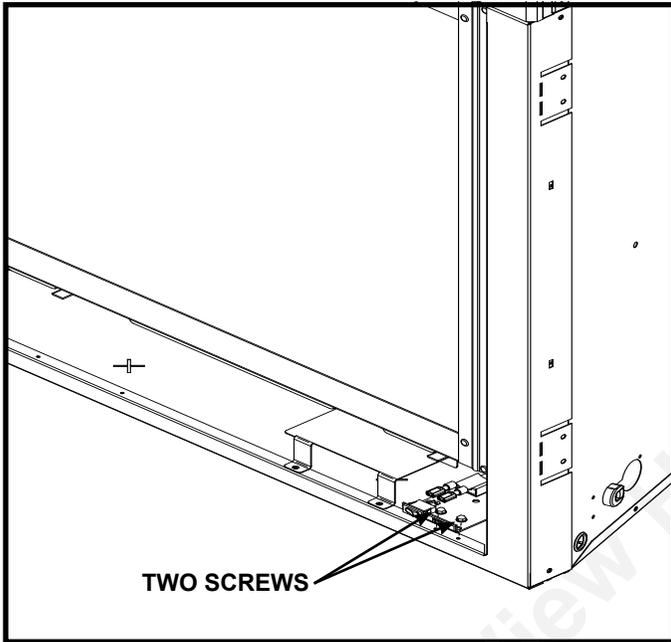

Figure 14.10
1. Remove two screws securing the switch assembly to the fireplace. See Figure 14.10.